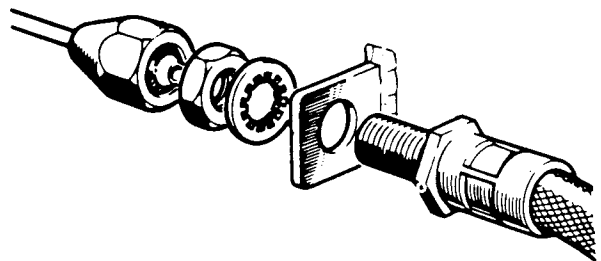

Fig J1.26
(6) Refer to Fig J1.26. Connect the front brake pipes to the flexible pipes on each side of the vehicle, fitting the flexible pipes through the chassis brackets.
(7) Refit the front propeller shaft to the final drive unit.
(8) Replace both front road wheels.
(9) Lower the vehicle to the ground and move vehicle bodily backward and forward to settle the springs, then tighten all six shackle pins and locknuts.